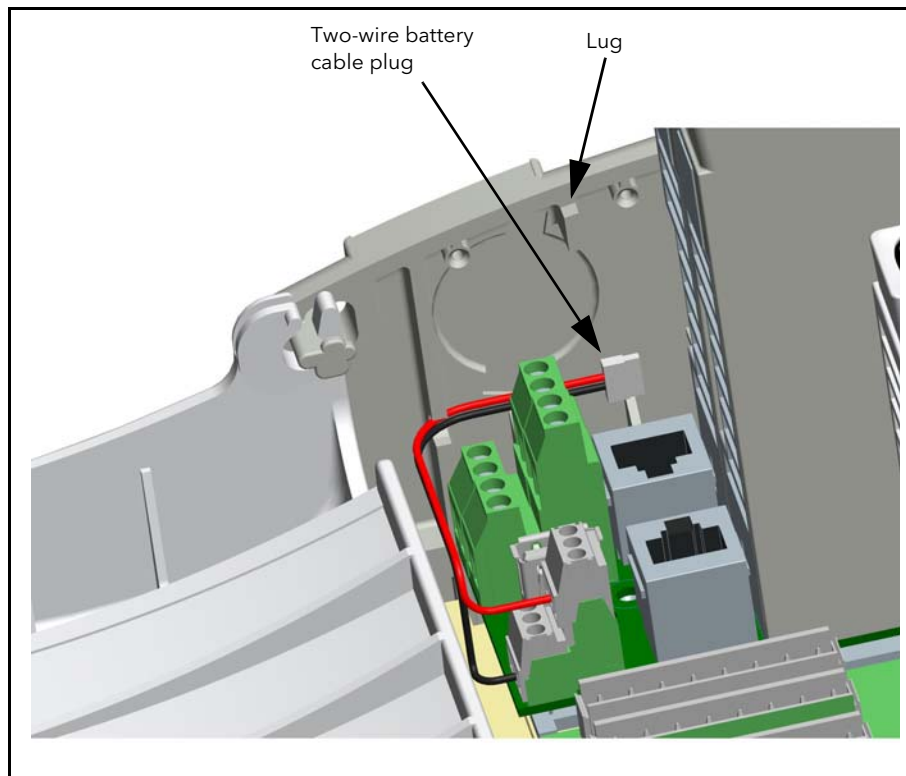

Figure C.2 Battery board removed
- Carefully manoeuvre the battery board of from the plastic side panel. Unplug the two-wire cable from the board end (Figure C.2).